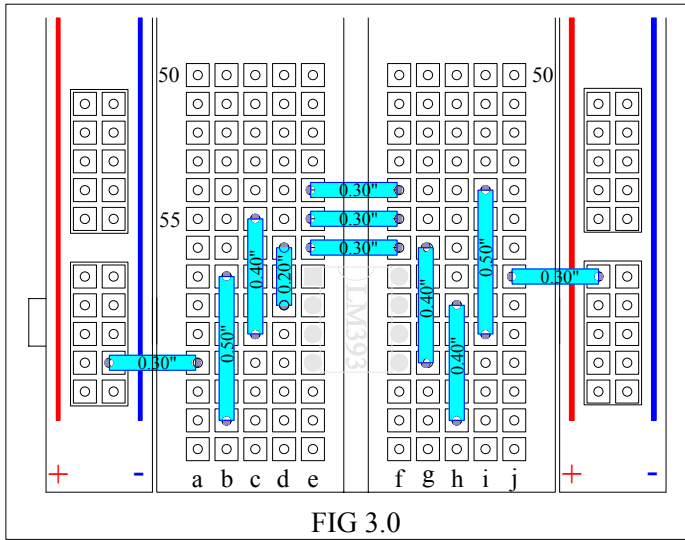

FIG 3.0
4. Step 3 - Insert the jumper wires as shown in FIG 3.0
Insert jumper wire as shown in FIG 3.0